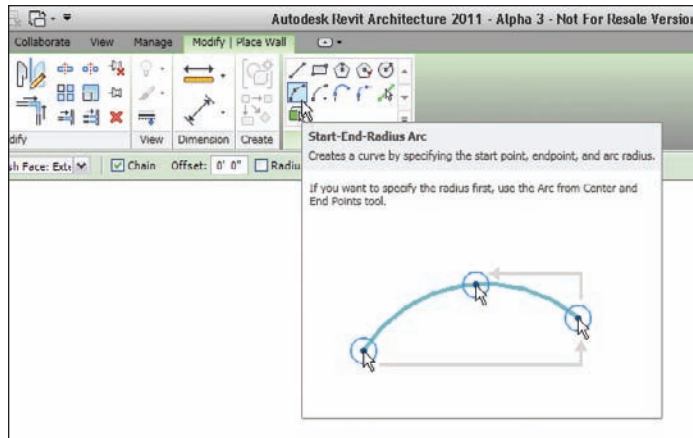

FIGURE 1.30 Just because you started the command from the view window does not mean you do not have to look at your options.
6. On the Modify | Place Wall tab, click the Start-End-Radius Arc button, as shown in Figure 1.30.